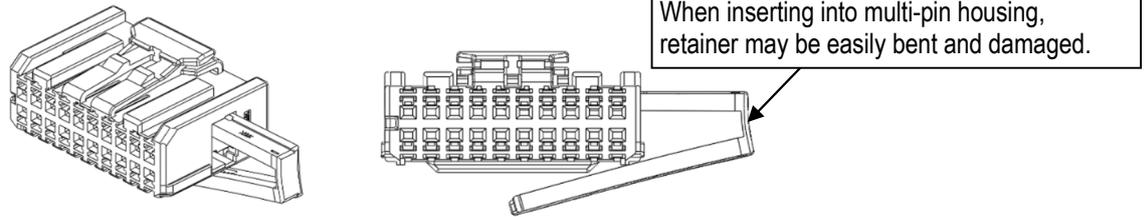

Fig34. Insufficient retainer installation
④ Do not forcefully insert in any other position than those shown in **Fig.34**.
- ① Retainer must be inserted in the orientation instructed. Inserting retainer in any other orientation may result in damage or deformation. (see **Fig.34,35**)
- ② If there is any damage or deformation, do not use the damaged item. Replace the item with a new one.